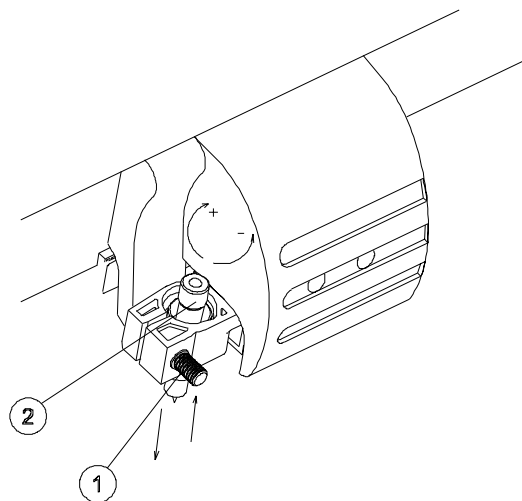

FIGURE 1-11
Install the knife holder in the tool carriage clamp (see Figure 1-11):
- A. Loosen the clamp screw (1) and load the knife holder (2) making sure that the holder is completely seated in the clamp (see Figure 1-11).